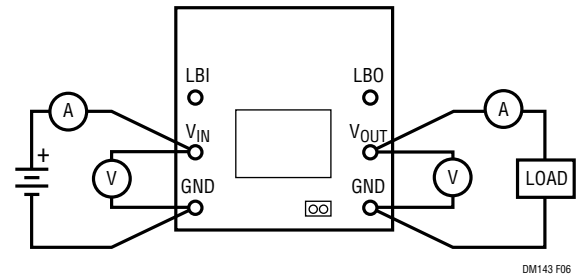

Figure 6. Correct Measurement Setup
- Connect the load between the V_{OUT} and GND terminals. Refer to Figure 6 for proper measurement equipment setup.
When trying to measure voltage regulation, remember that all measurements must be taken at the point of regulation. This point is where the LTC1474/LTC1475's control loop looks for the information to keep the output voltage constant. This information occurs between Pins 1 and 4 of the LTC1474/LTC1475. These points correspond to the output terminals of the demonstration board. Test leads should be attached to these terminals. Measurements should not be taken at the end of test leads at the load. Refer to Figure 6 for proper monitoring equipment configuration. This applies to line regulation (input-to-output voltage regulation) as well as load regulation tests. In doing line regulation tests, always look at the input voltage across the input terminals.